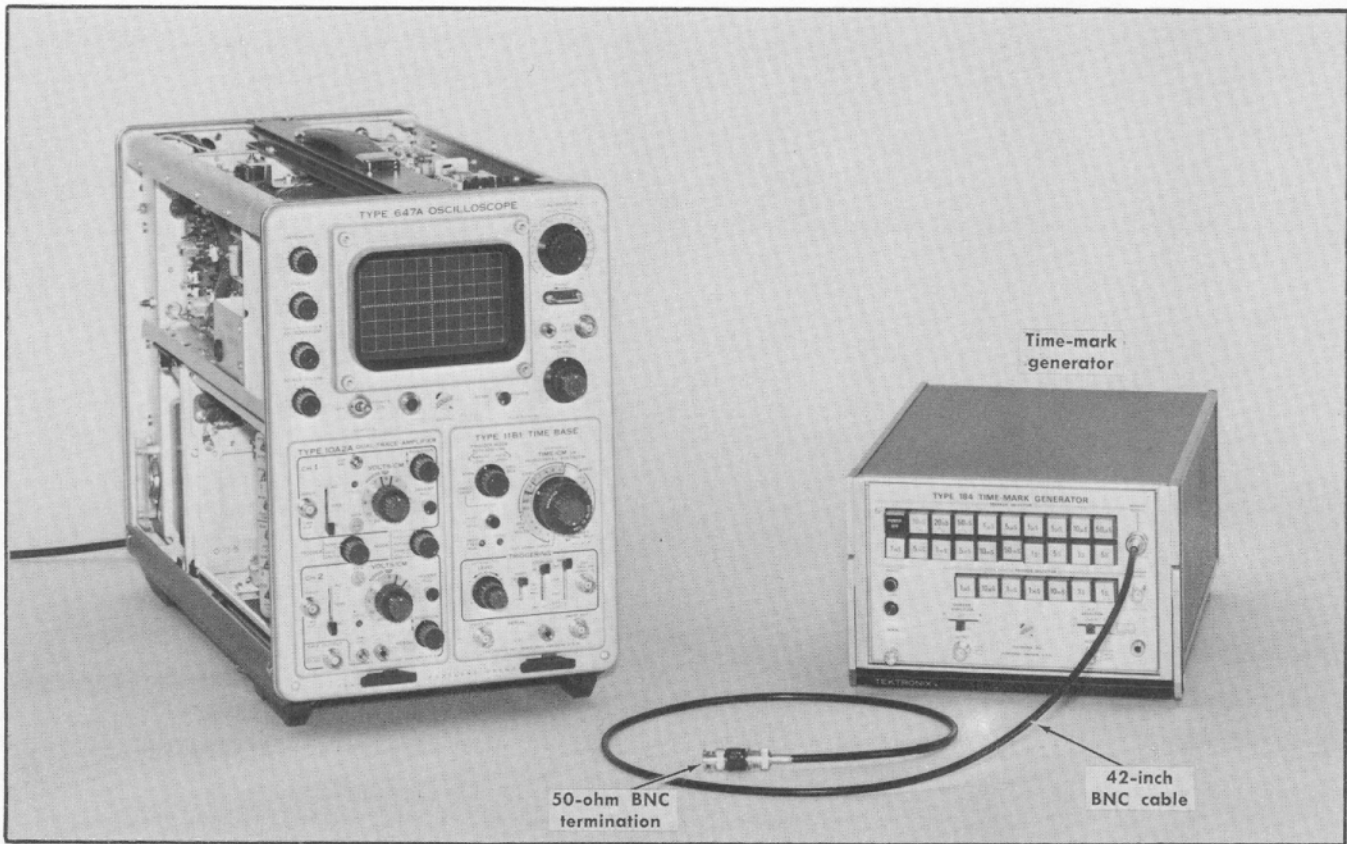

Fig. 5-7. Equipment required for steps 11 through 18.
a. Test equipment for steps 11 through 18 is shown in Fig. 5-7.